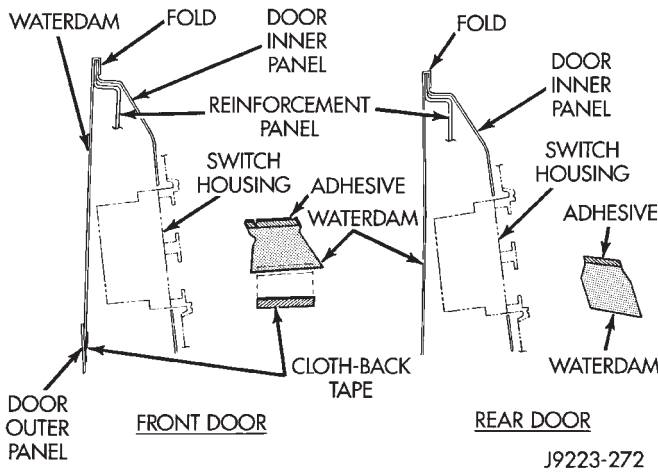

Fig. 20 Ash Receiver Tray Housing
(11) If necessary, remove the ash receiver tray housing from the rear door trim panel (Fig. 20).